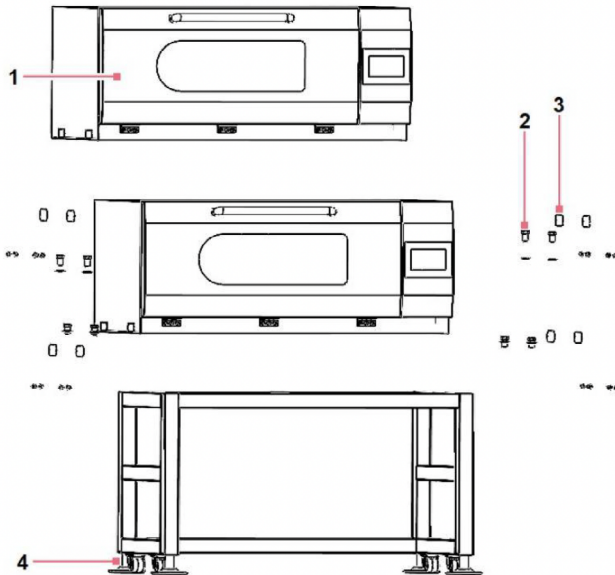

Fig. 6-5: Install Q5102 Stacking Kit
2. With reference to the figure below (see Fig. 6-5 on p. 19), install the set screws into the top of the bottom unit, on the two side edges, and install the set screws (from the sides of the unit to be stacked) that correspond to the mounting brackets.